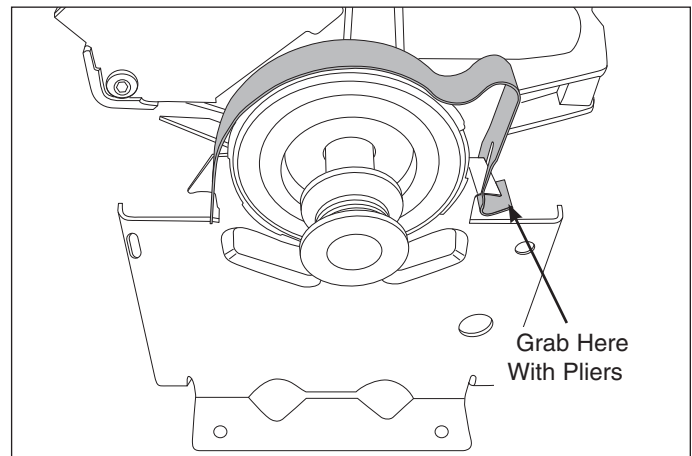

Figure 4-42.
4. Using a pliers, grab the motor clip at its outer edge, then push down and away from the motor mounting bracket until free of retaining tab. Remove motor clip from motor assembly. (See Figure 4-42)